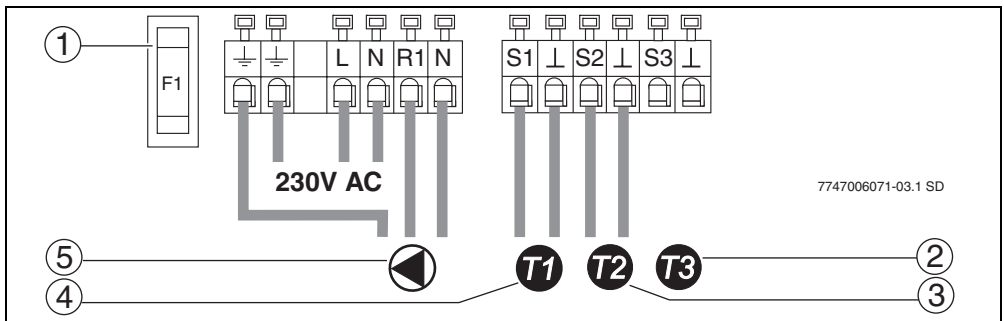

Fig. 6 Terminal diagram
- ▶ Connect the cables in accordance with the terminal diagram (→ Fig. 6).